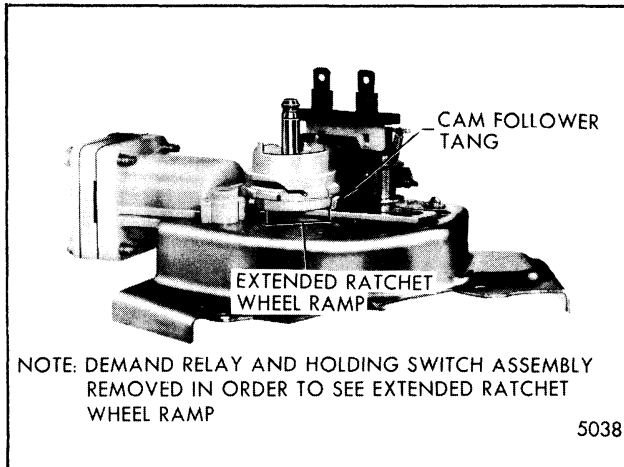

Fig. 2-77-Ratchet Wheel Ramp
4. The washing cycle is completed when an extended ramp on the lower surface of the ratchet wheel moves into position where the tang on the piston actuator plate rests on the ramp stopping the movement of the actuator plate (Fig. 2-77). However, the wiper motor continues to run to provide two additional drying wiperes.